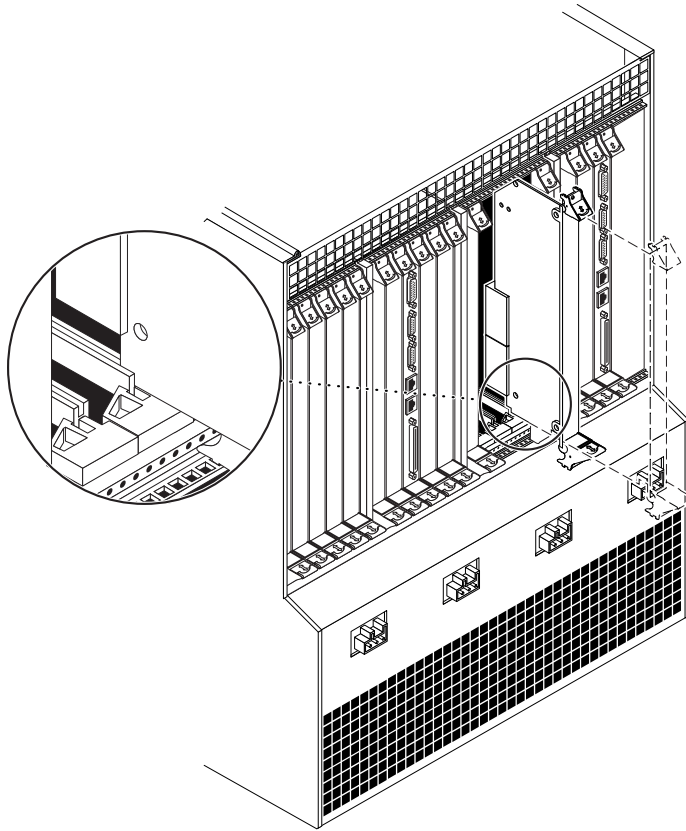

FIGURE 6-19 Aligning the Card with the Rear Card Cage Cutouts
3. Keeping the host CPU rear transition card vertical, slide the card into the slot in between the two guides (FIGURE 6-19).
The teeth in the handle of the card must align with the square cutouts in the slot. When the card is completely seated in the card cage, the two ejection levers should flip inward, and the teeth in the ejection levers should fit smoothly in the rectangular cutouts in the bottom and top plates. FIGURE 6-19 shows how to insert an I/O card into a slot; the same principal applies to a host CPU rear transition card.
6. Keeping the card vertical, slide the rear transition card in between the two guides into the slot (FIGURE 6-19).